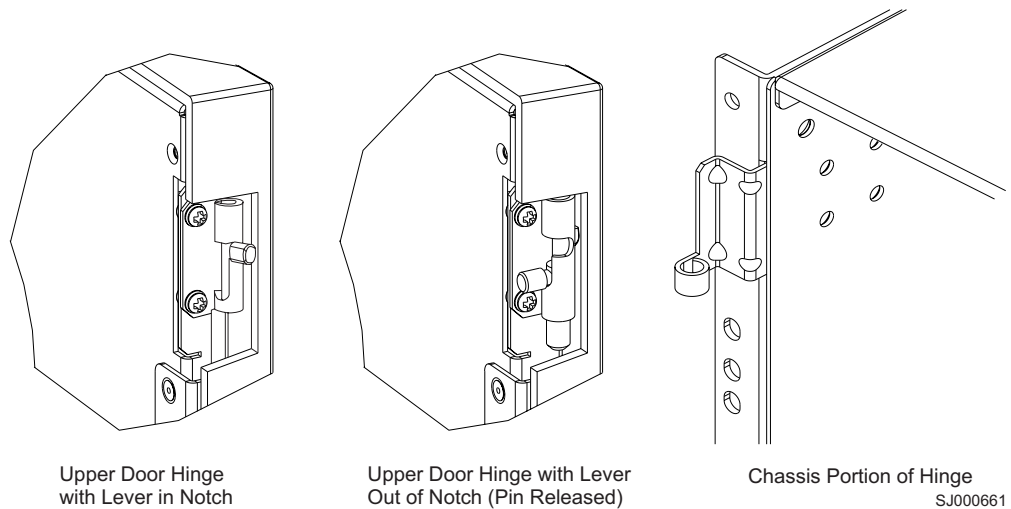

Figure 23. Upper door hinge
2. Push the spring-loaded pin on the upper hinge up and into the notch in the hinge. See Figure 23 on page 50.
Perform the following steps to install a door in the chassis (see Figure 23 for illustrations of the upper hinge):